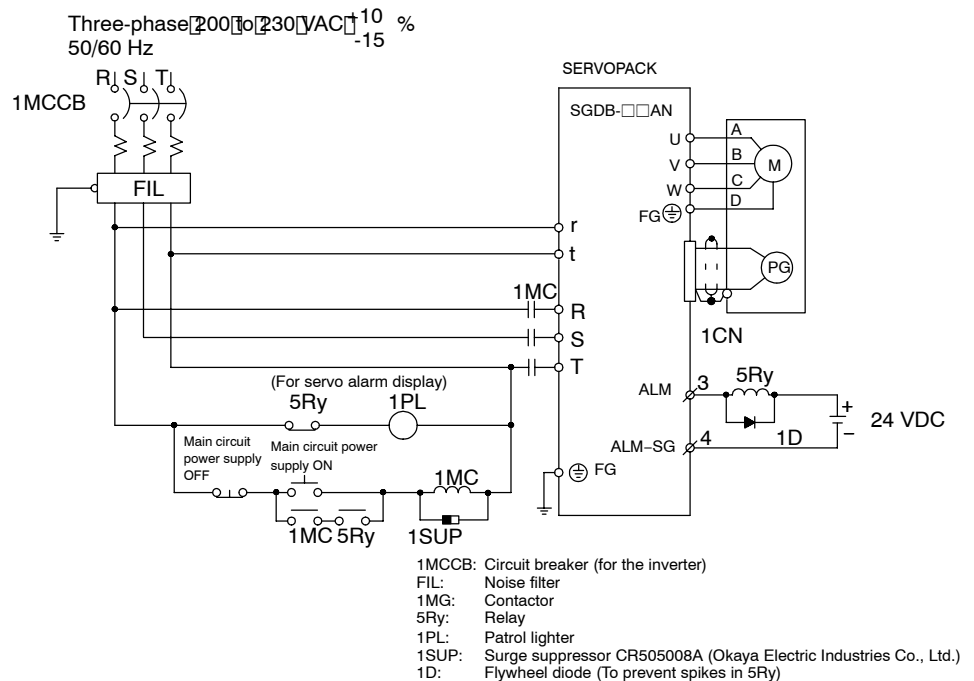

Figure 5.1 Example of Power ON/OFF Sequence
2. During the power ON and OFF sequence shown in *Figure 5.1*, it takes up to approx. two seconds until the normal signal is valid once power is turned ON assuming that the CONNECT command has been received.
3. It takes up to approx. two seconds to initialize settings in the SERVOPACK when the control power is turned ON. The servo alarm signal will be output (ON) until the communication connection is completed for the CONNECT command.